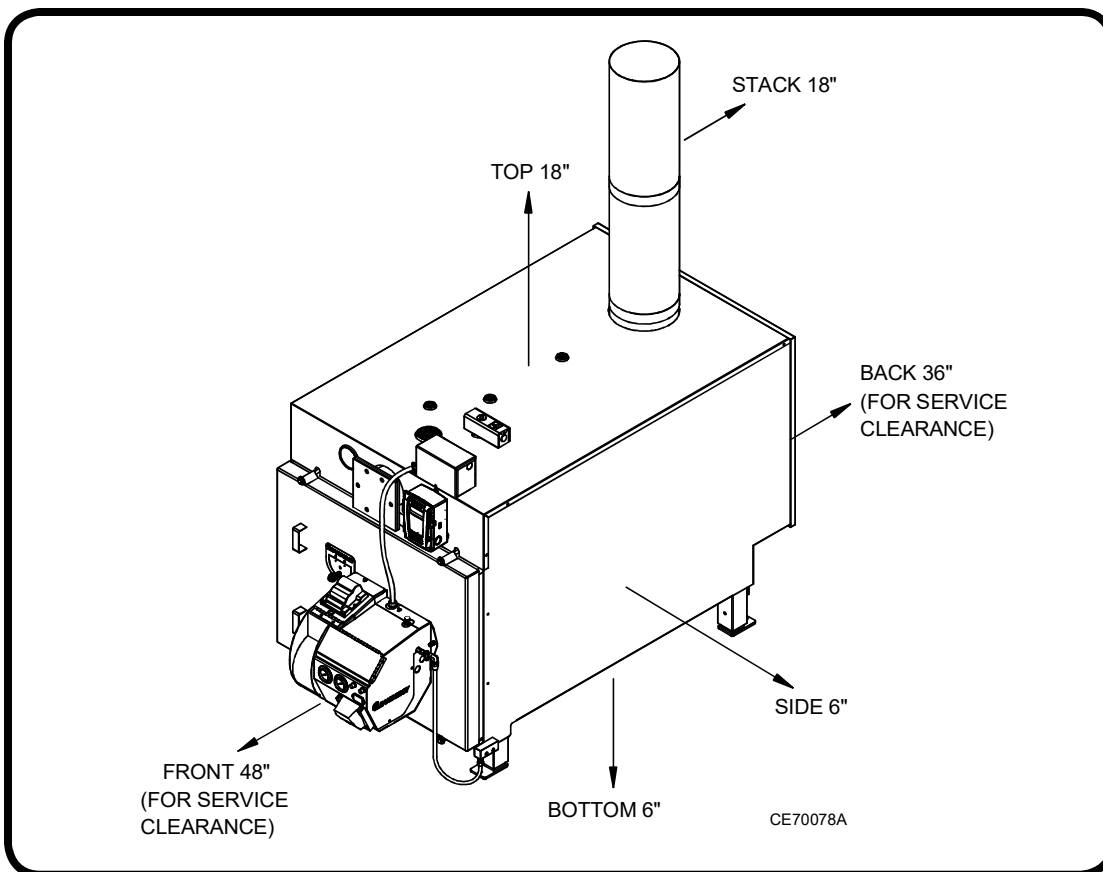

Figure 9: Clearances to Combustible Materials
- (1) Do not obstruct shop personnel or equipment
- (2) Find a location where the boiler can easily be moved into place.
- (3) The installation must meet the clearance to combustible material requirements (Figure 9)
- (4) The location must be safely accessible for maintenance and service
- (5) The installation must comply with all local codes and regulations
- (6) Keep the stack / chimney system simple. A complicated stack with multiple elbows and long horizontal runs will reduce the natural draft of the unit which can damage critical burner components.